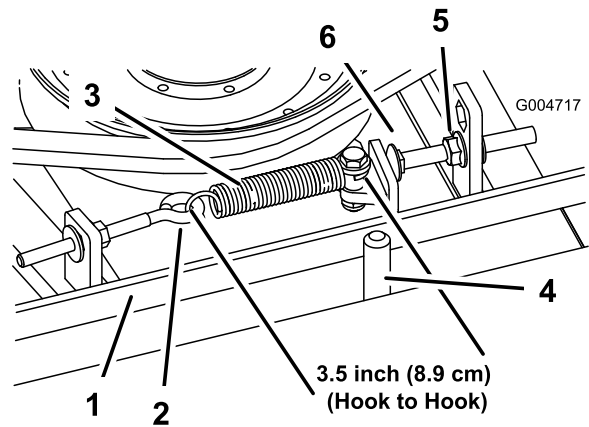

Figure 70
When properly tensioned, the extension spring (hook to hook) measurement should be approximately 3.50 ±.25 inch (inside). Once the correct spring tension is attained, adjust the stop bolt (carriage bolt) until there is approximately .125 +.060/-.000 inch clearance between the head of the bolt and the idler arm (Figure 70).
Note: Make sure the belt is positioned on the spring side of the belt guide (Figure 70).
2. Loosen the eye bolt allowing the removal of the extension spring (Figure 70).
- Loosen the flange nut securing the stop bolt to the mounting tab. Back off the nut enough to allow the idler arm to pass by the stop bolt (Figure 70). Move the idler pulley away from the belt to release belt tension.
- Reconnect the extension spring (Figure 70) to the eye bolt and tension the belt as follows: